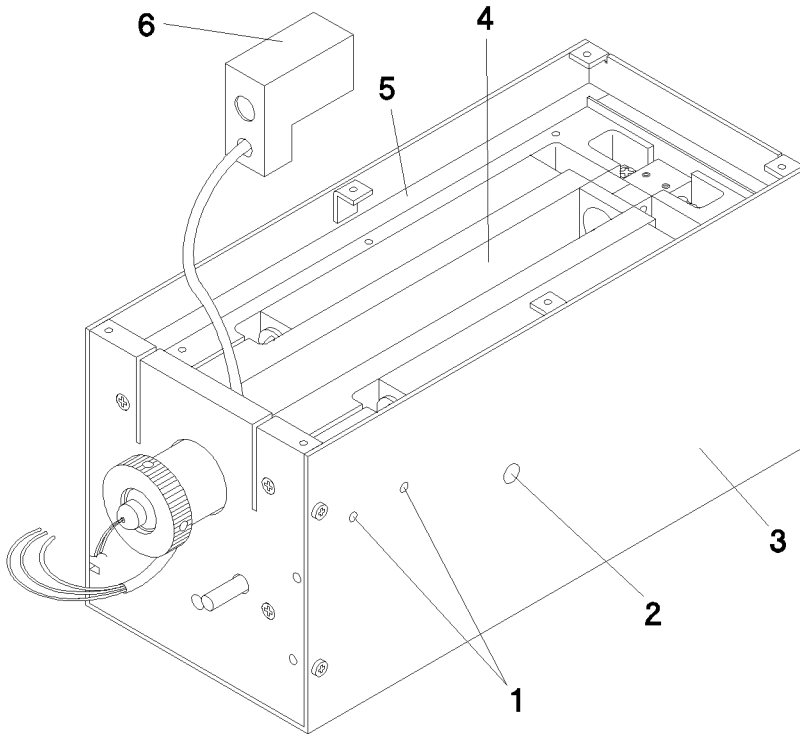

Figure 3-14. Optical Block
9. The complete photodiode assembly can now be pulled out of the optics block as shown in Figure 3-14.